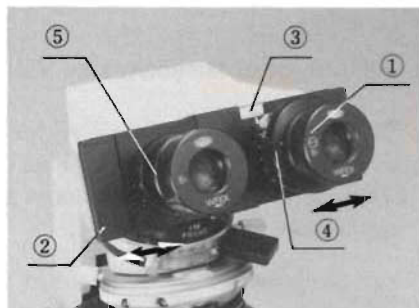

Fig. 3
- 2) Looking through the right eyepiece (with cross hairs) with your right eye, rotate the diopter adjustment ring ① until the cross hairs are sharply focused. (Fig. 3)
- 3) Looking through the both eyepieces with both eyes, adjust the interpupillary distance, sliding the knurled dovetail slides ② of the right and left eyepiece tubes, until perfect binocular vision is obtained.
- 4) Memorize your interpupillary distance setting by reading the scale ③.